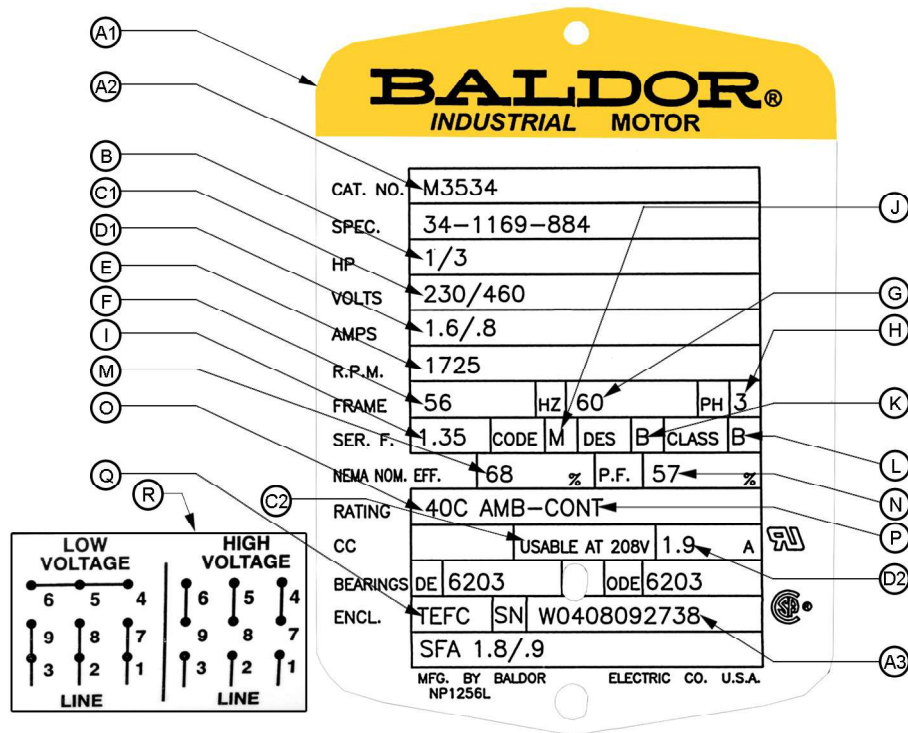

Figure 2-2. Three-phase motor nameplate.
A nameplate displays useful information about the motor. The nameplate shown in Figure 2-2 is for a standard, three-phase, nine-lead motor.
- S. **Motor type** (not shown in Figure 2-2): Manufacturers classify motors by their electrical and mechanical characteristics (squirrel-cage, induction, split-phase, permanent magnet, etc.).